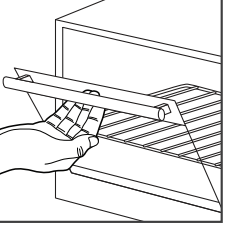

Figure 1
- **NOTE:** When dehydrating or broiling, leave the door open approximately 3 inches from the closed position (See Figure 1).